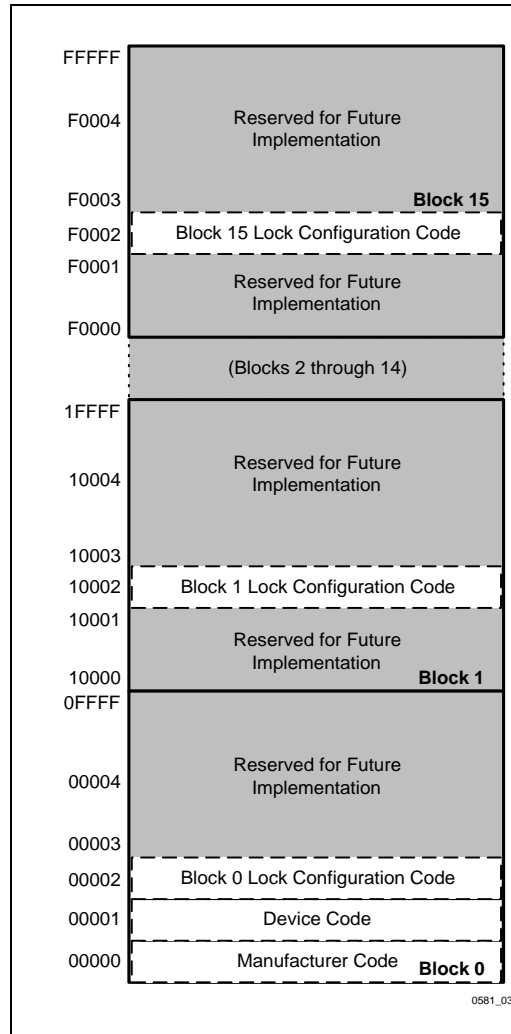

Figure 3. Device Identifier Code Memory Map
-003	Altered specification throughout document for addition of the iFM008A 8-Mbyte card Following Figure 3, Device Identifier Code Memory Map, added note for clarification In Section 6.4, Clear Status Register Command, reworded the note to correspond to the WSM diagrams in the 28F008SC and 28F016SC memory device specifications In Section 6.9, Set Block Lock-Bit Command, removed reference to device address In Section 9.1, Absolute Maximum Ratings, combined “V _{CC} Supply Voltage” and “Voltage on Any Pin (except V _{CC})” specifications into new specification “Voltage on Any Pin”; changed note 2 accordingly In Section 9.2.1, Capacitance, combined C _{in} and C _{out} specifications for individual cards into one general C _{in} and C _{out} specification for all cards In Section 9.2.2, AC Input/Output Test Conditions, added note to clarify Figure 5 In Section 9.3, DC Characteristics, changed specified values for: I_{LI} , I_{LO} , I_{CCS} , I_{CCD} In Section 9.3, DC Characteristics, added mA for units of I_{CCR} In Section 9.3, DC Characteristics, removed Notes 7 and 8 In Section 9.3, DC Characteristics, changed maximum V_{IH} value at $V_{CC} = 5\text{ V}$ from $0.7 V_{CC}$ to $V_{CC} + 0.5$ In Section 9.4.1, Read Operations, changed specified value for “OE# Access Time— 5 V Max” from 40 ns to 50 ns In Appendix B updated document references listed in table “Related Intel Information” Re-worded the following areas of the document for clarity: Pin description of signals A0- A24 in Table 3 Pin description of signal RESET# in Table 3 Section 4.1.1, Read Array Section 6.6, Word Write Command Section 6.8, Word Write Suspend Command Section 8.4, V _{CC} , RESET# Transitions and the Command/Status Registers Corrected minor clerical errors in document
The read identifier codes operation outputs the manufacturer code, device code, and block lock configuration codes (for each block), see Figure 3. Using the manufacturer and device codes, the system CPU can automatically match the device with its proper algorithms. The block lock codes identify locked and unlocked blocks.
IA = Identifier Code Address: see Figure 3.
The host initiates the identifier code operation by writing the Read Identifier Codes command. Following the command write, read cycles from addresses shown in Figure 3 retrieve the manufacturer, device and block lock configuration codes (see Table 7 for identifier code data). To terminate the operation, write another valid command. Although Table 7 lists the device code as either A6A6 or AAAA, this family of products could also have device code A7A7. Host software should check for all three device codes listed in Table 7 to achieve compatibility with both current and future cards.
- X selects the specific block lock configuration code to be read. See Figure 3 for the device identifier code memory map.